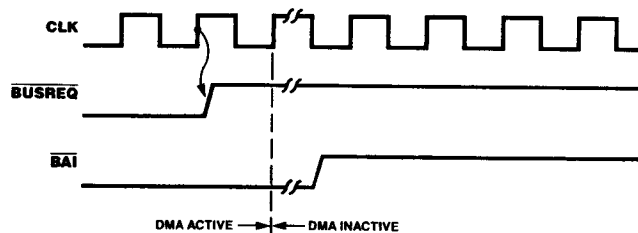

Figure 16. Bus Release (Byte-at-a-Time Mode)
**Bus Release Byte-at-a-Time.** In Byte-at-a-Time mode,  $\overline{BUSREQ}$  is brought High on the rising edge of CLK prior to the end of each read cycle (search-only) or write cycle (transfer and transfer/search) as illustrated in Figure 16. This is done regardless of the state of RDY. There is no possibility of confusion when a Z80 CPU is used since the CPU cannot